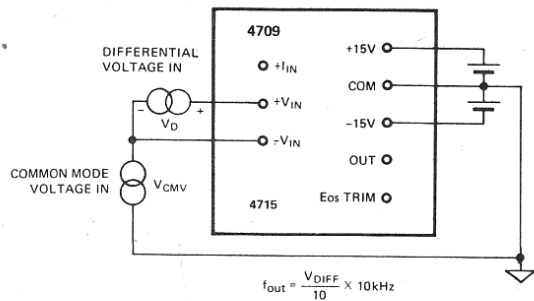

Figure 5G. Definition of Differential & Common Mode Voltage
To use the 4715 voltage inputs differentially, several simple conventions (definitions) must be observed as illustrated in Figure 5G.
① Nonlinearity is deviation from ideal transfer function when Full Scale Factor has been trimmed to +10.000 V and Output Offset Voltage to 0.000 V for convenience in testing.
② See Fig. 5G for definition
③ Constant voltage at Zero trim pin